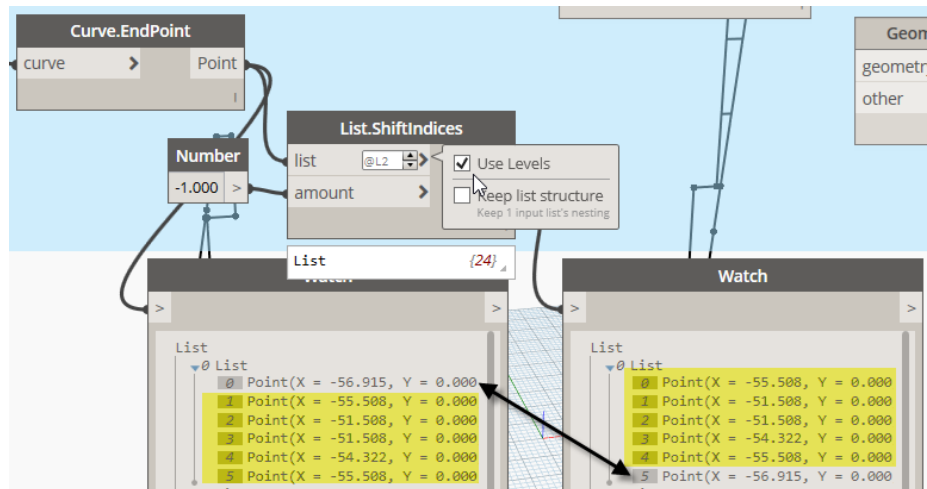

FIGURE 100
35. Click the small chevron next to the list port and check Use Levels. Make sure it is set to: **@L2** and run the graph (see Figure 100).